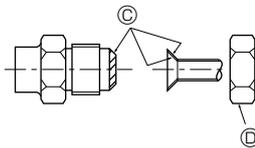

Fig. 4-1
4.2. Connecting pipes (Fig. 4-1)
- Apply thin layer of refrigerant oil to pipe and joint seating surface before tightening flare nut. ④
- Use 2 wrenches to tighten piping connections. ②
- Apply refrigerating machine oil over the entire flare seat surface. ③
- Use the flare nuts for the following pipe size. ②
④ (Fig. 4-1)
② (Fig. 4-1)